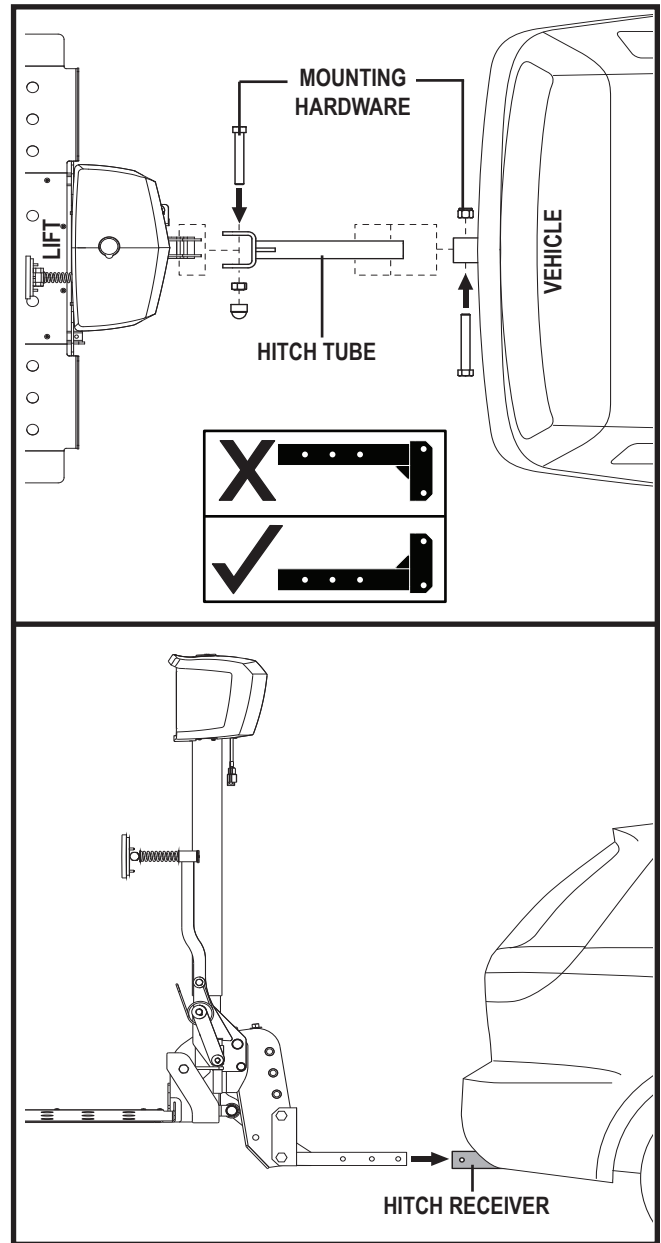

Figure 7. Hitch Tube Assembly
2. Ensure that the hitch tube is properly oriented as shown in **figure 7**, and mount the hitch tube to the lift frame using the previously removed mounting hardware. Install the hardware in the direction indicated in **figure 7**.
3. Slide the hitch tube into the vehicle hitch receiver, aligning the mounting hole closest to the lift with the mounting hole in the hitch receiver. **See figure 7.**
- Secure the hitch tube with the supplied bolt and nut, inserting the bolt from the threaded side of the hitch tube. **See figure 7.**